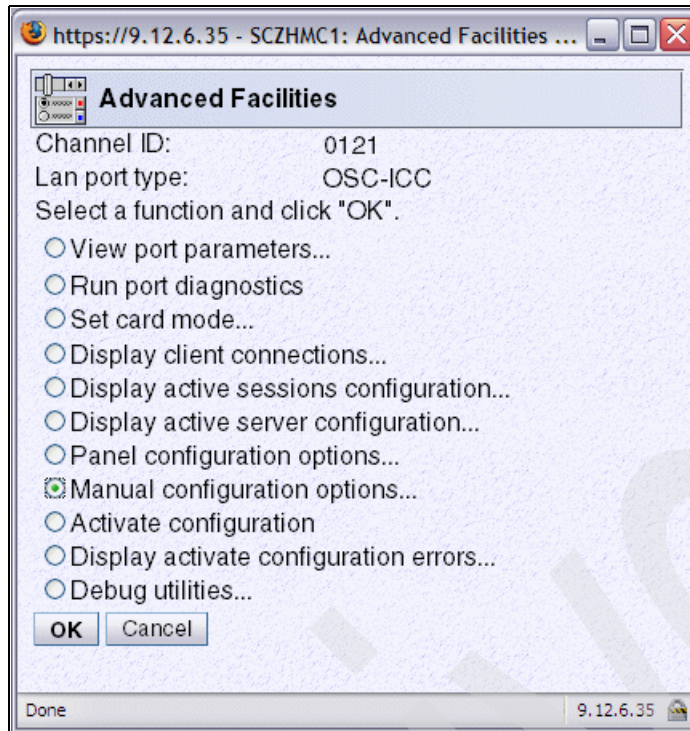

Figure 4-29 HMC - OSA Advanced Facilities (Manual config)
6. Select the radio button **Manual configuration options...**, then click **OK** (Figure 4-29 on page 160).